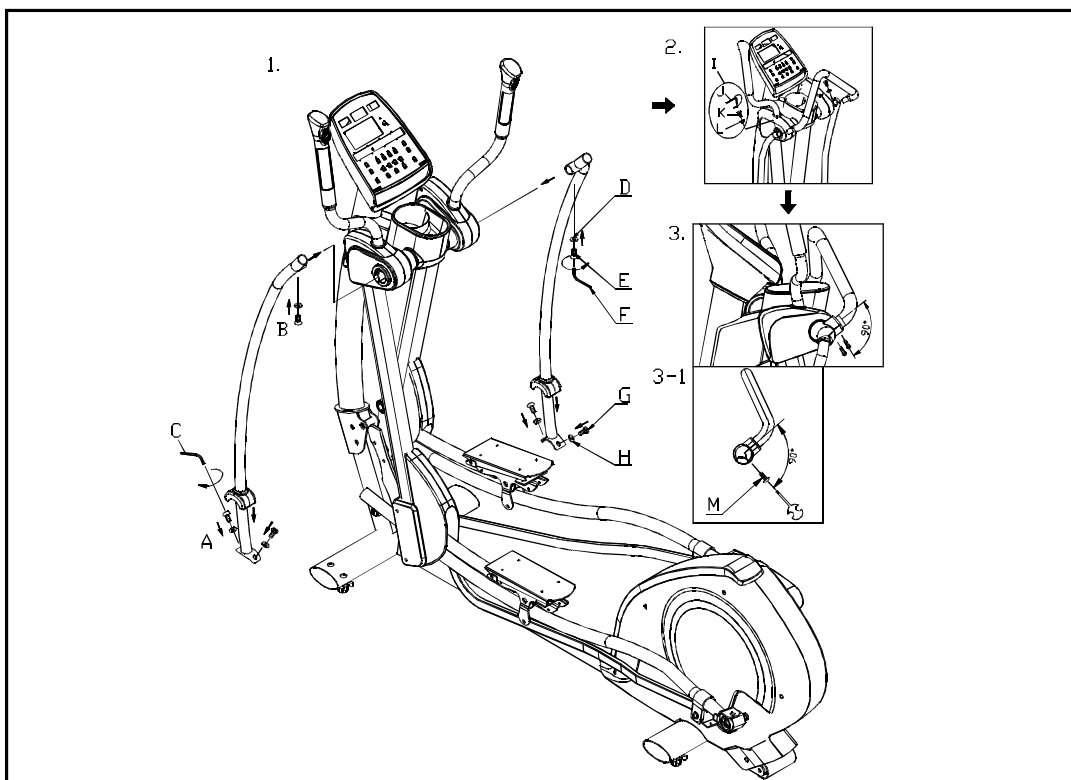

Fig.5
**STEP 8.** (1) Loosely secure bolts A and B on both Side Supports. At this point, do not tighten these bolts.
(2) With hardware shown in illustration I, secure the Stationary Handlebar at both sides. Then Tighten bolts A and B.
(3) Secure the Stationary Handlebar covers with M screws. When securing the handle bar, make sure direction of screws are 90-degree to the handle bar. (See Fig. 5 )